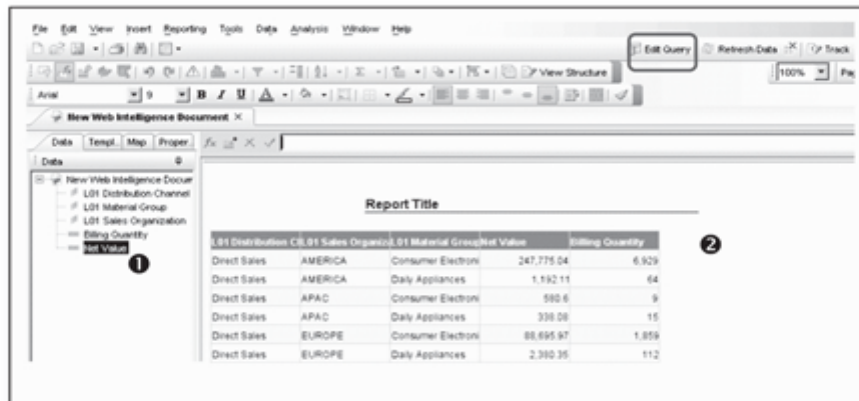

Figure 13.28 Default Report Layout
8. The query result is displayed as shown in Figure 13.28. The left pane (❶) consists of all of the data elements that are selected to be in the report, and the right pane (❷) displays the query result.
To go back to the query edit screen, click on the Edit Query button highlighted in Figure 13.28.